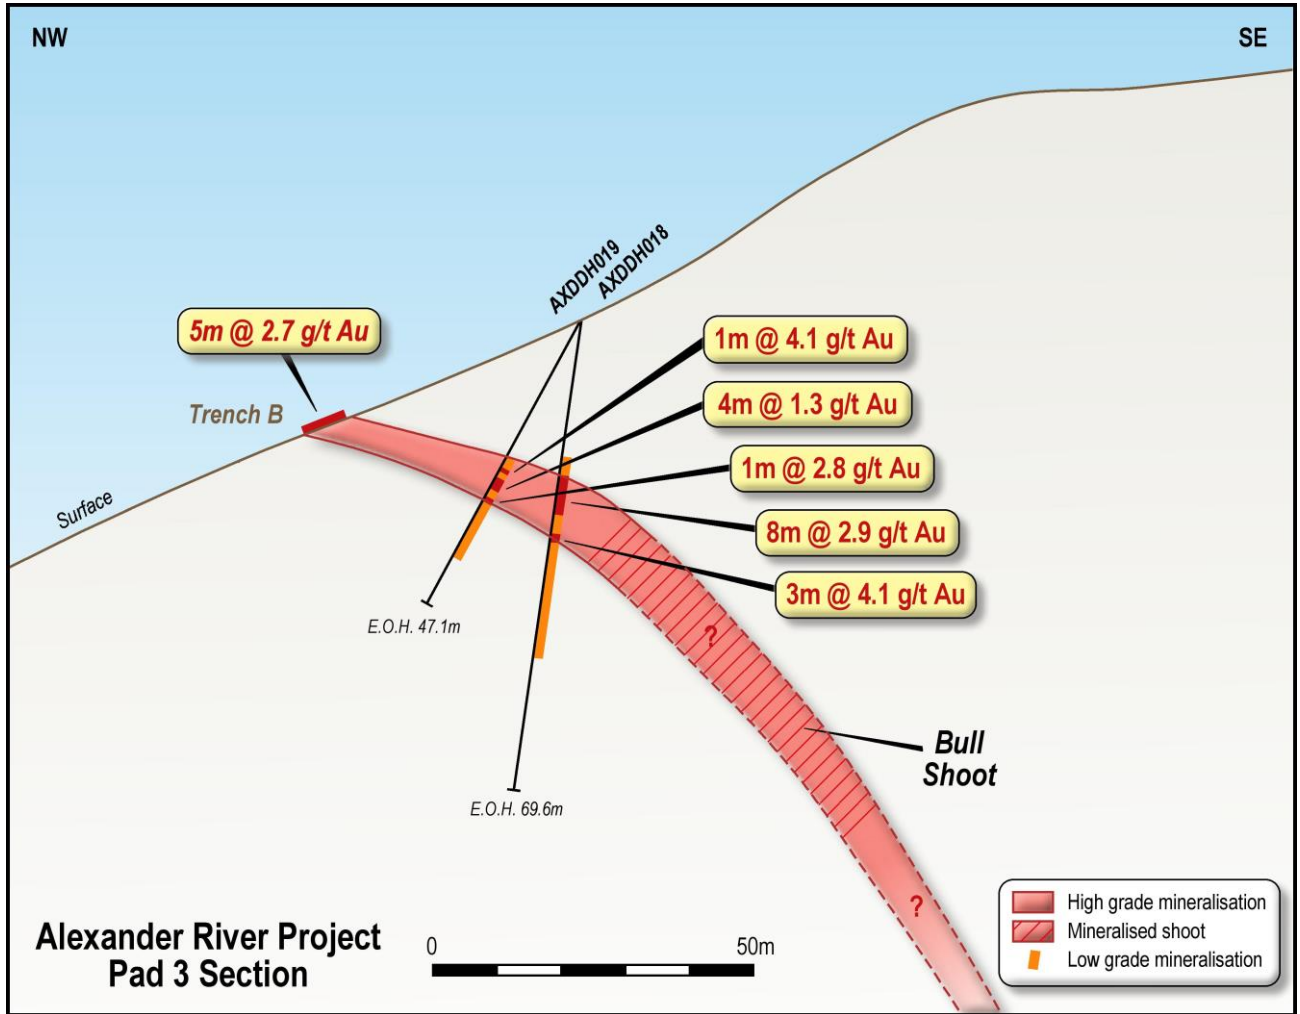

Figure 3. Cross section through Pad 3
- AXDDH018 and 19 were drilled from Pad 3 below Trench B (5m @ 2.7g/t Au). AX18 was the deeper of the two holes and intersected 8m @ 2.9g/t from 26m, and a second intersection of 3m @ 4.1g/t from 47m. AXDDH019 intersected 1m @ 4.1g/t, 4m @ 1.3g/t from 29m and 1m @ 2.7g/t from 38m. AXDDH018 is around 25m above the projected Bull shoot (Figure 3).